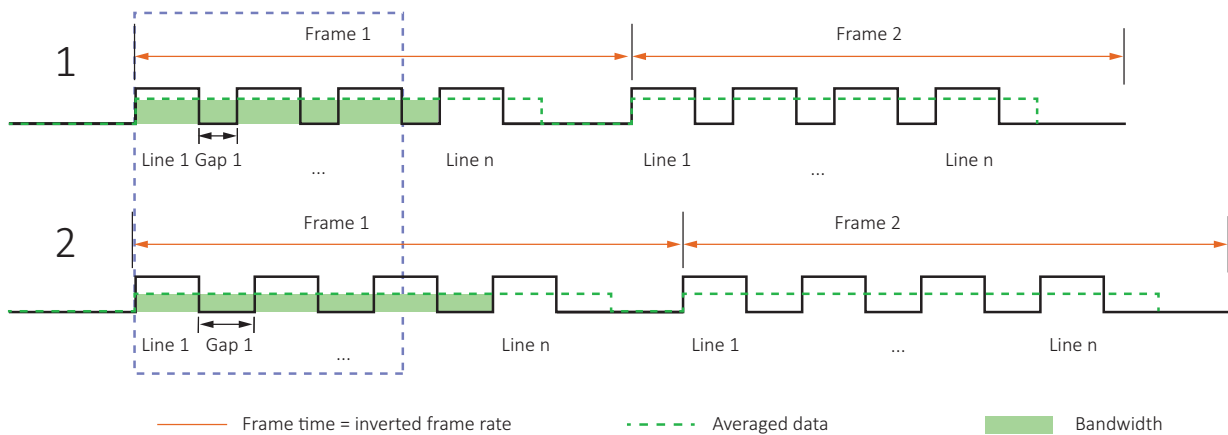

Figure 94: Sensor data output and camera data output
Figure 94 shows the bandwidth for a higher (1) and a lower (2) value for `DeviceLinkThroughputLimit`.